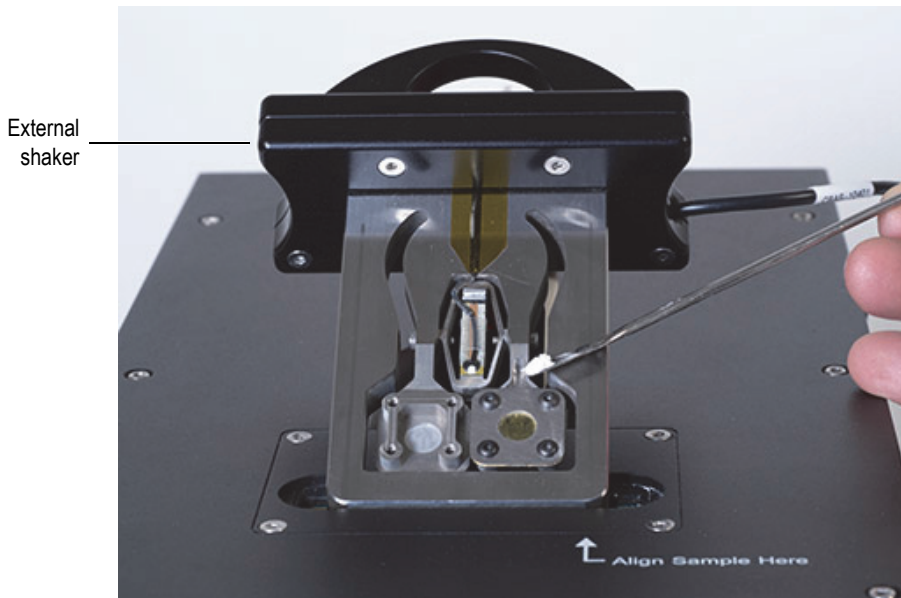

Figure 3-14 Loading the sample
2. Insert the sample carrier into the external shaker and gradually load a small amount of material (enough to fill the gap created by the spacer) into the side A cell assembly (see Figure 3-14 on page 52).